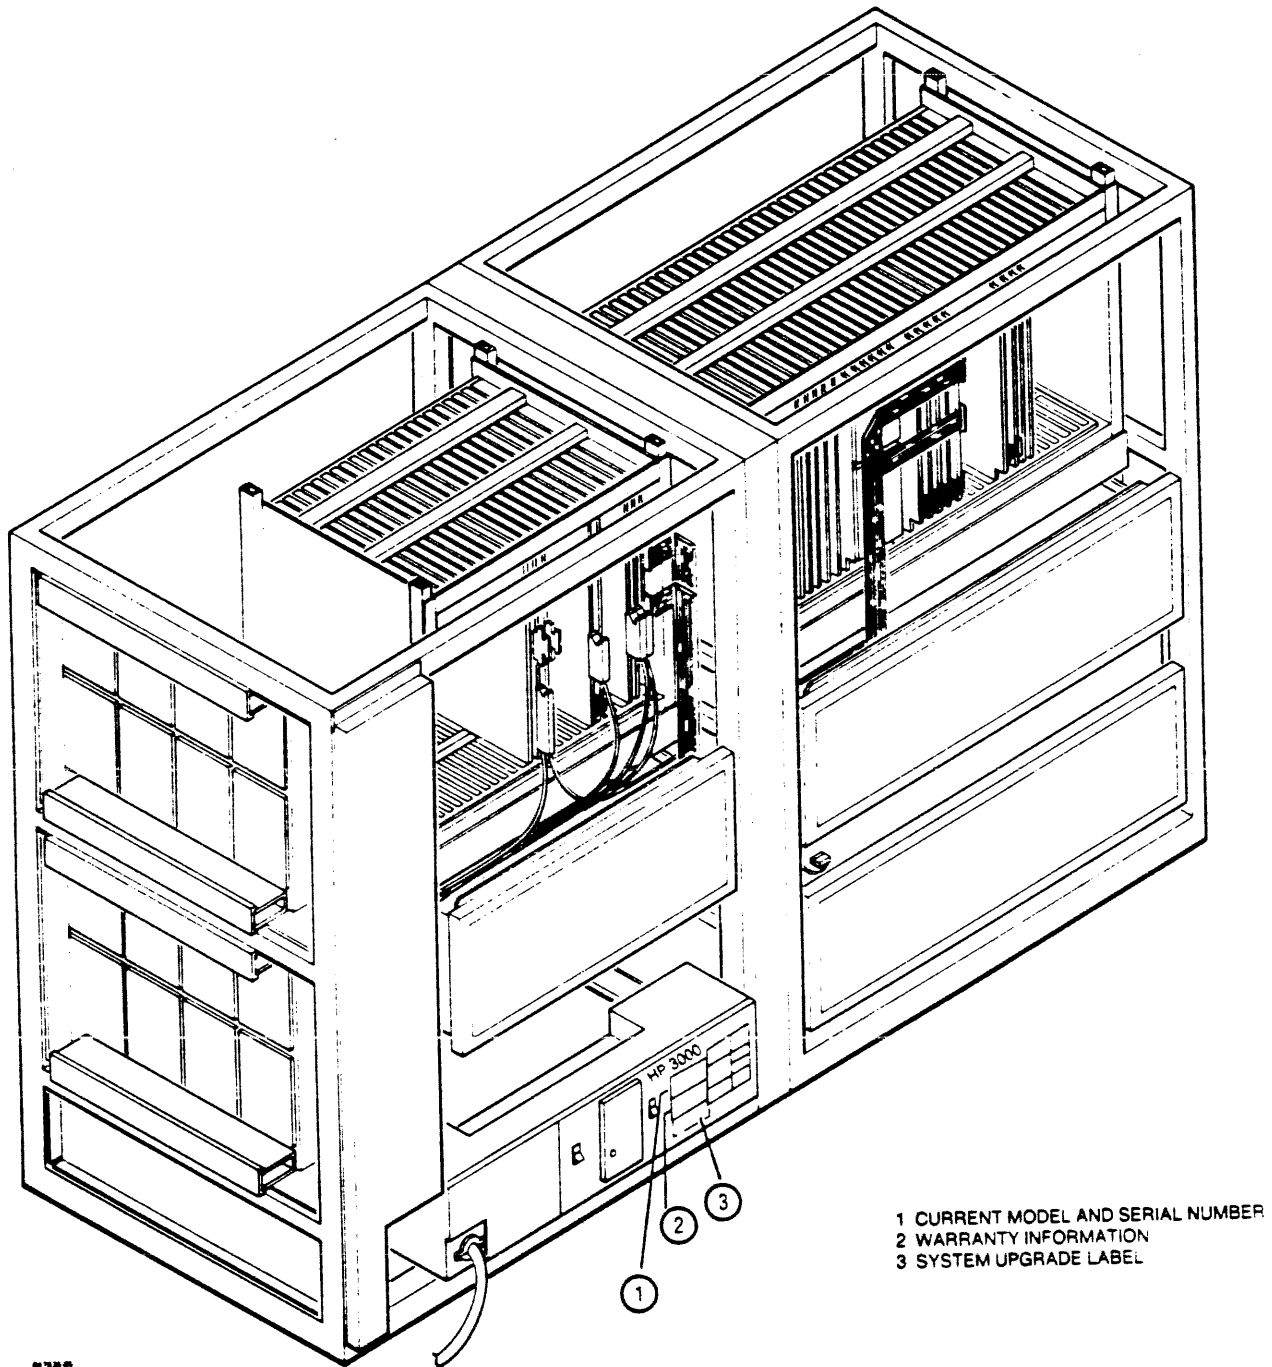
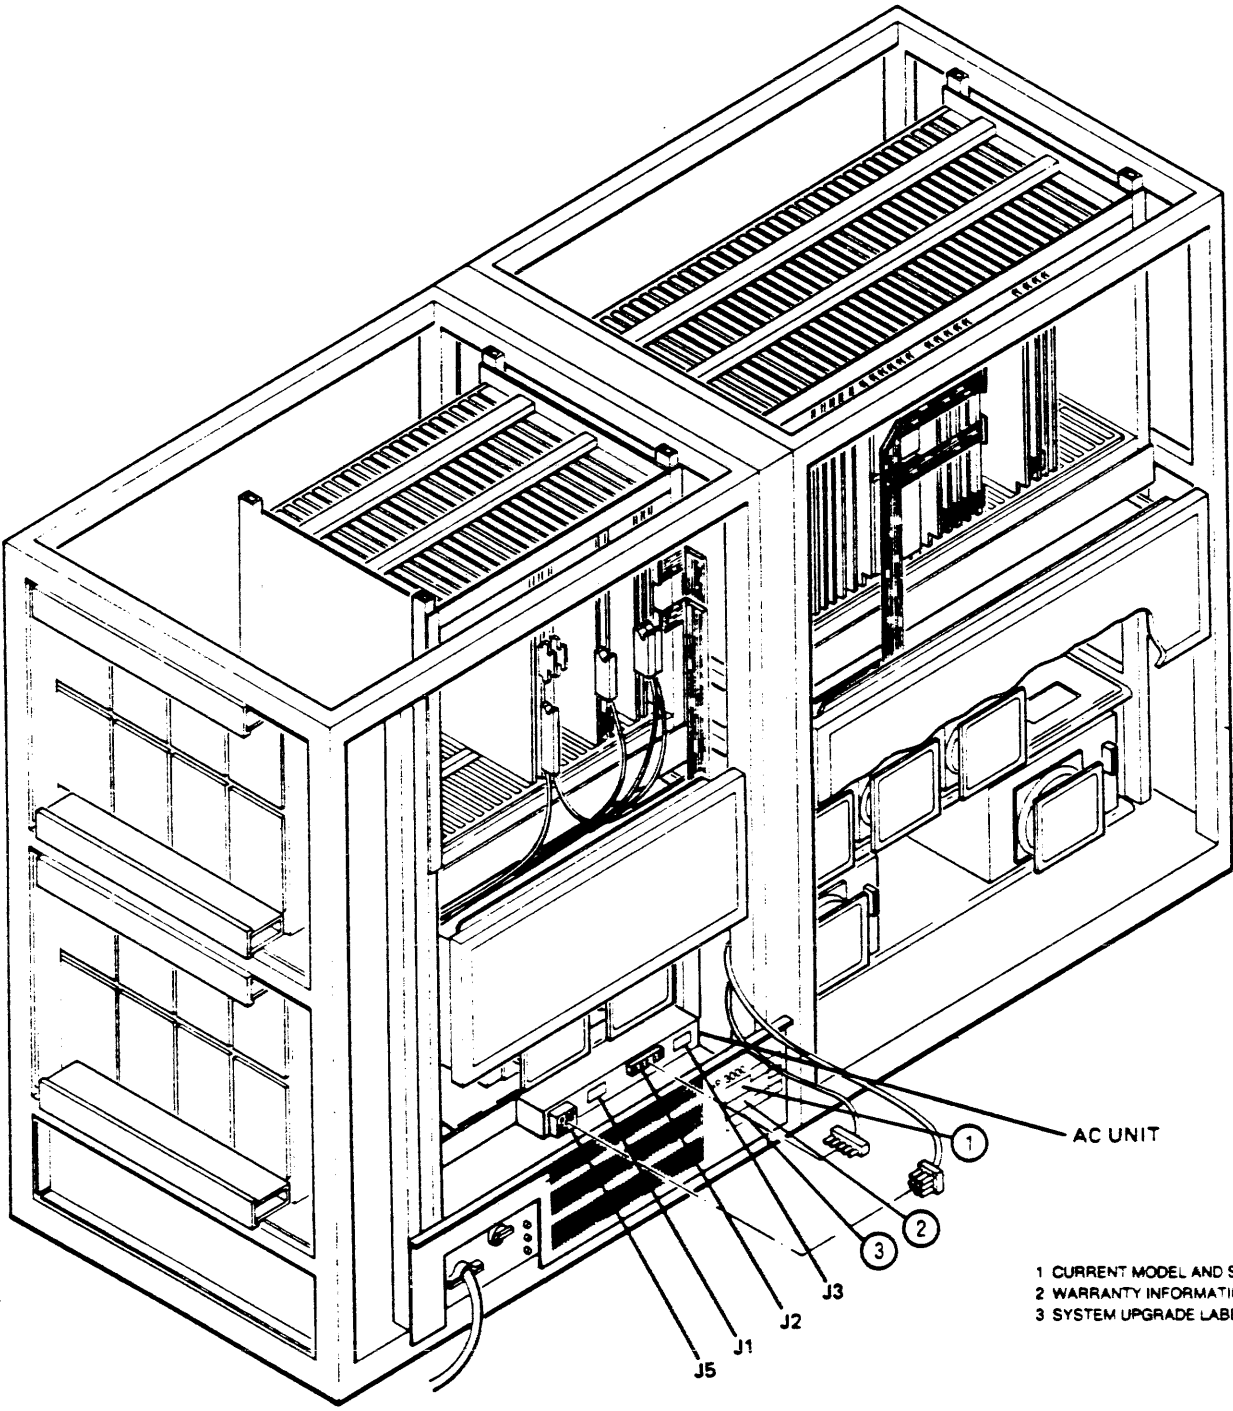

Figure 1-1. SPU Rear View (HP 32460A/68A), Panels Removed.
Figure 1-2. SPU Rear View (HP 32460B/32468B/32468C), Panels Removed.
1. Set Main POWER Switch to OFF. (For the 64A/68A, it is located on the Power Control Module as shown in Figure 1-1, and for the 64B/68B/68C it is located on the AC Unit as shown in Figure 1-2, both in lower rear of I/O Bay.)
1. Locate the existing printed label for your upgraded Series 64 or Series 68 Computer System marked "HP 3000 Series 64" or "HP 3000 Series 68", on the rear of the first I/O Bay. (For Series 64A/68A it is located to the right of circuit breaker CB2 on the Power Control Module as shown in Figure 1-1, and for Series 64B/68B/68C it is located to the right of the AC input power cord and ON/OFF Switch, as shown in Figure 1-2.)
2. Attach the appropriate system upgrade label that identifies which Series 70 product number the system is upgraded to (marked as Product Number 30443A, 30443B, 30444A, or 30444B). This label must be attached directly underneath the existing two labels that reference (1) the current model and serial number, and (2) the warranty information. (See Figure 1-1 or Figure 1-2, as applicable.)